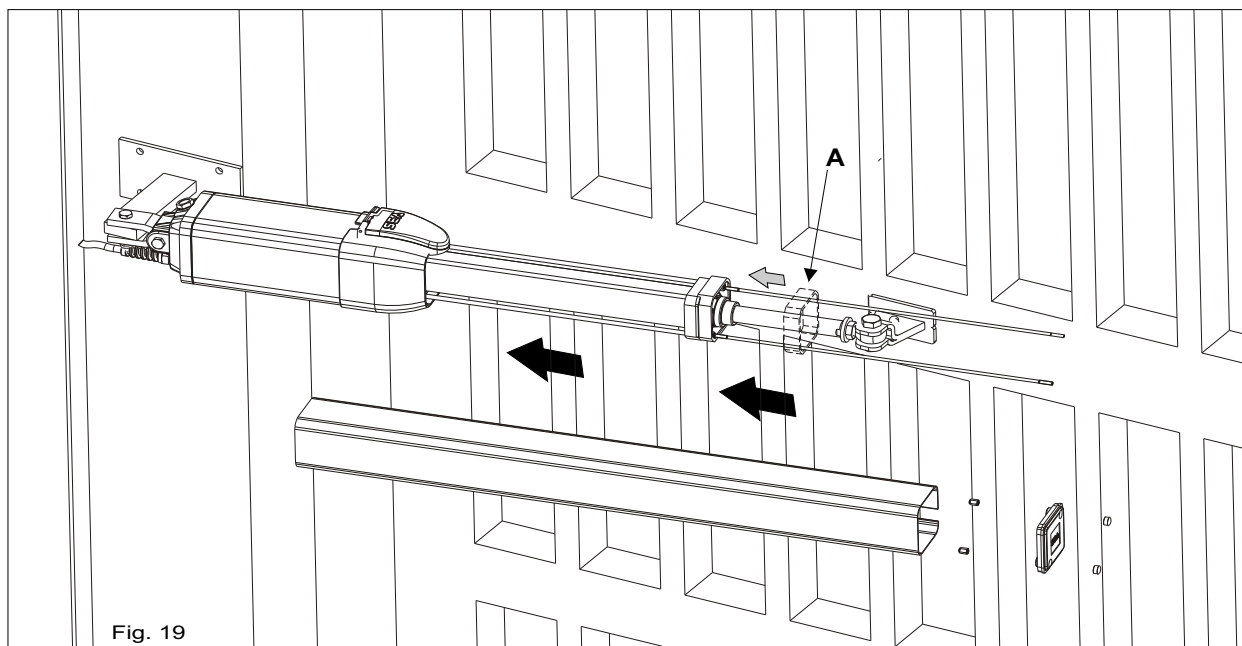

Fig. 19
Make sure to have inserted the antivibration plastic frame (A) before inserting the rod cover extrusion (Fig. 19)